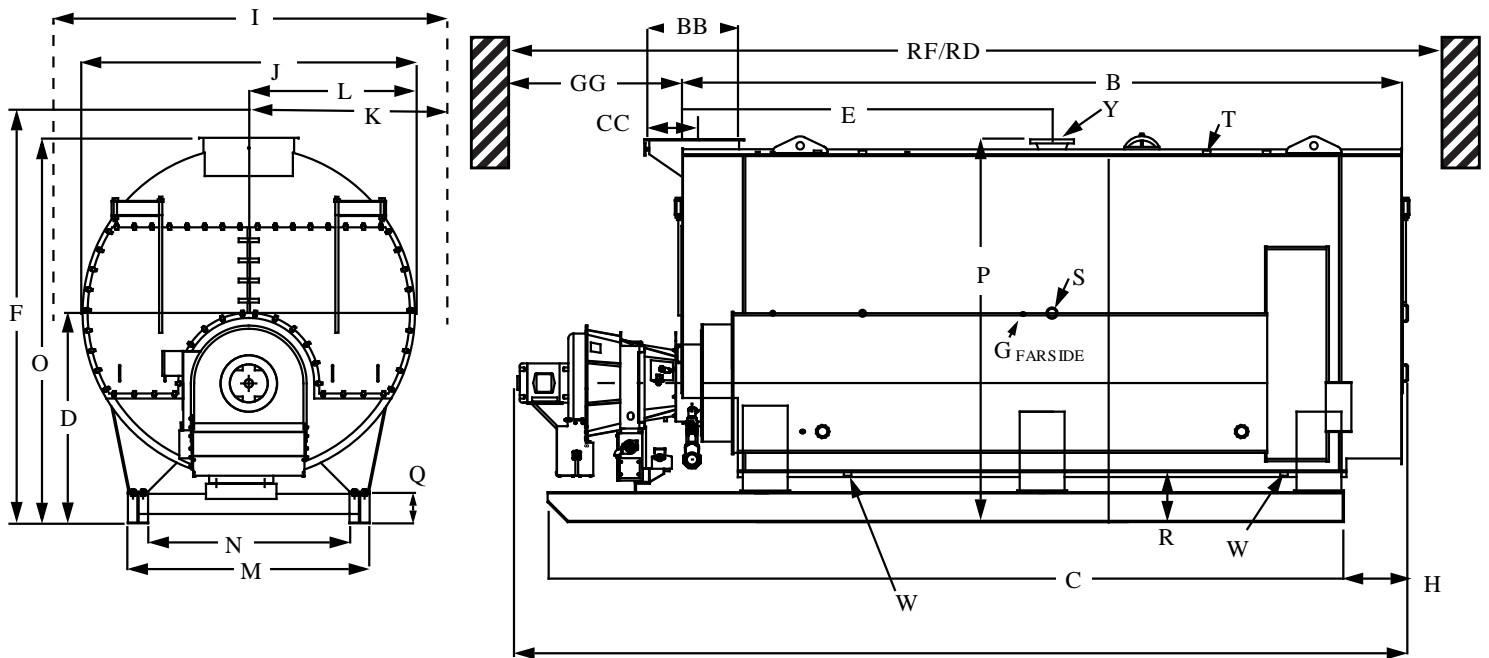

Figure 1. Dimension Diagram
- Figure 1, Table 4 CBL Steam Boiler Dimensions
C. Reference Figure 1.